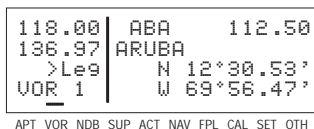

Figure 3-68
1. Make sure you have turned the cursor off from the previous example. With the right knobs, select the VOR 1 page (figure 3-68).